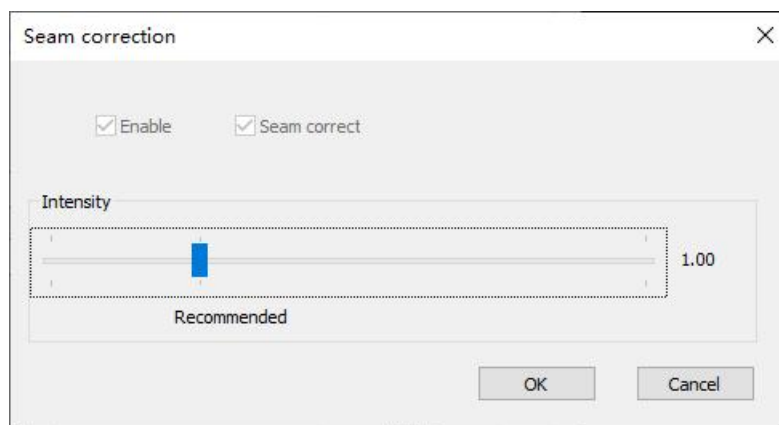

Fig.3-27 Seam correction (only) settings
**Note:** If you have selected **Seam correction (only)** before, you cannot perform the brightness/chroma calibration, and the seam correction function will be enabled by default. See Figure 3-27.